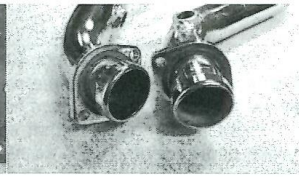

Figure 2.3 Install retaining rings and flanges.
3. Install exhaust port flanges and retaining rings (from stock system) onto head pipes. (FREEDOM PERFORMANCE) recommends replacement of exhaust port gaskets if damaged or worn out. (See figure 2.3)